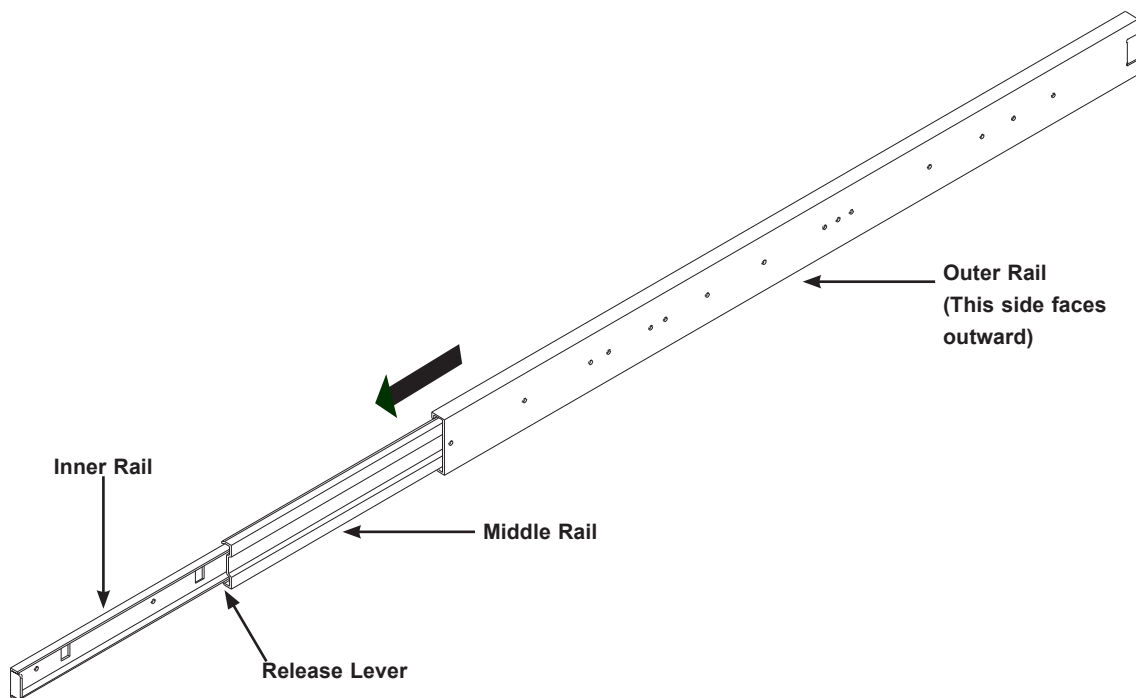

Figure 2-1. Identifying the Outer Rail, Middle Rail and Inner Rail
2. Find the release lever (Figure 2-1) on each side of the chassis on the inner rails. Release the chassis by simultaneously and lifting the left lever and pushing down the right lever. Continue to pull the chassis out of the rack.